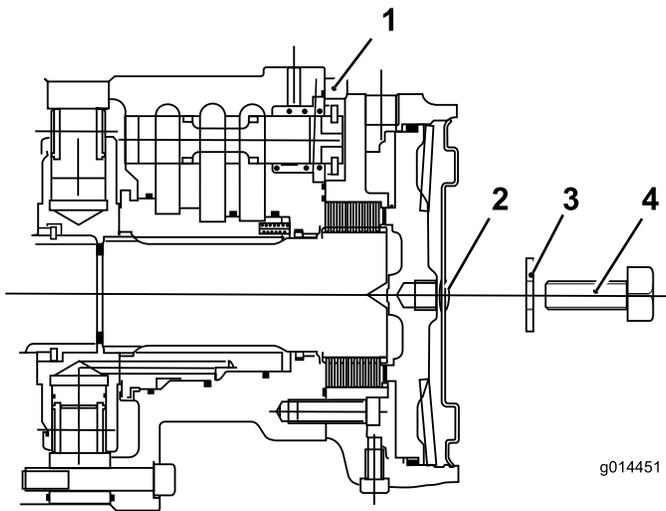

Figure 36
6. Assemble a bolt 12 x 40 mm and washer 12 mm into the hole at the center of the motor end plate (Figure 36).
7. Tighten the bolt in the threaded hole in the brake piston until the brake releases (Figure 36).